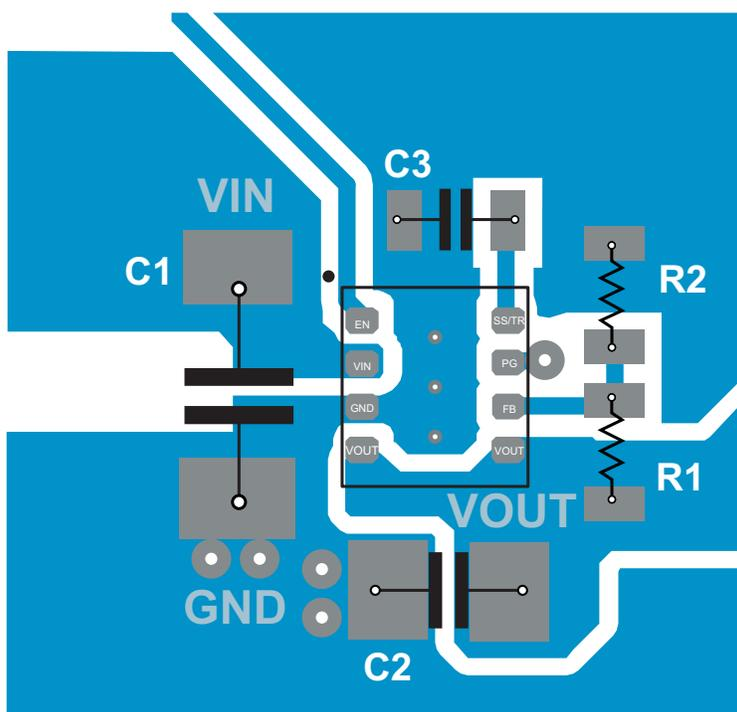

Figure 31. TPS82150 PCB Layout
- Refer to Figure 31 for an example of component placement, routing and thermal design.